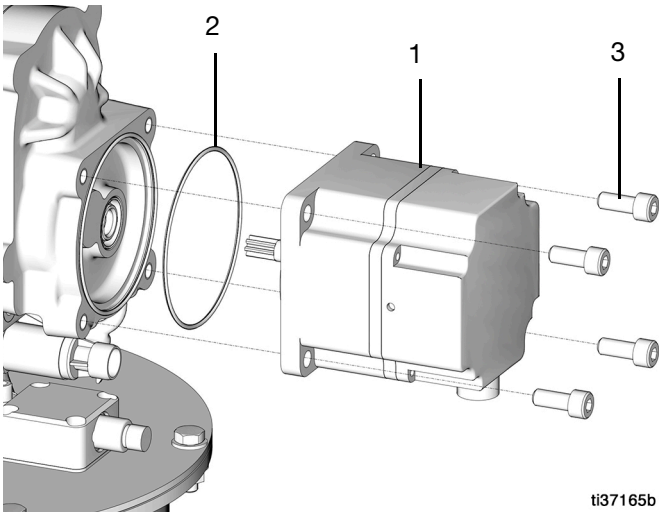

FIG. 25
3. Loosen and remove the four bolts (3) holding the motor (1) to the pump, then remove the motor (1) and the o-ring (2) (FIG. 25).